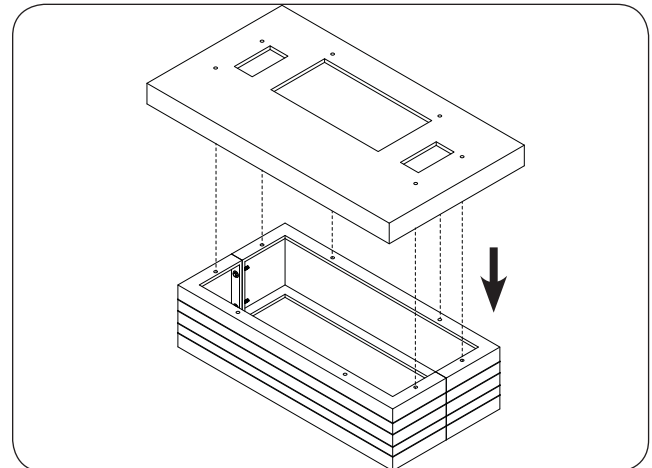

Fig. 14-3 Place shelf
1. Place the shelf piece on top of the hearth. Carefully align the pilot holes. See Fig. 14-3.